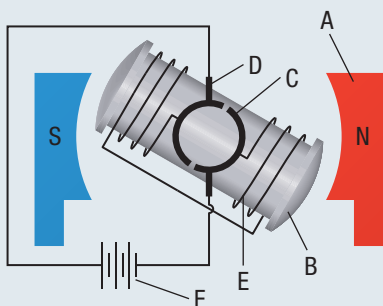

Figure 12
1. (a) Identify the parts labelled A, B, C, D, E, and F for the motor shown in **Figure 12**.